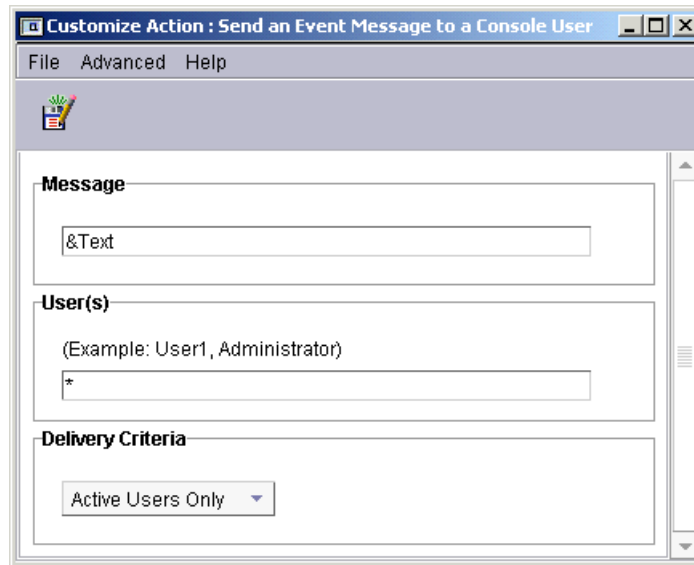

Figure 5-7 Customize action configuration window
8. A new window will appear. For the message, type &Text. This will show the error message in the pop-up window. For User(s), type \*. This will cause the message to appear on all current Console users. See Figure 5-7 for more details.